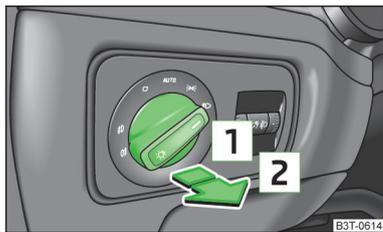

Fig. 52
- Turn the light switch to position  or  » Fig. 52.
- Turn the light switch to position  or  » Fig. 52 on page 71.